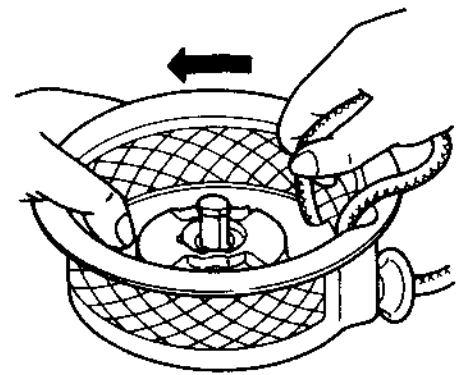

FIG. 84
(3) Before putting the reel in the starter case, wind the starter rope in the arrowhead direction as shown in Fig. 84, and at 2.5 windings take out the rope from the reel notch. Set the reel hook to the inner end of the spring, and put the reel in the starter case. (At this time, confirm that the reel hook is duly set to the spring.) Then, hold the starter rope as shown in Fig.84, and turn the reel 4 times in the arrowhead direction. When wound up, firmly press the reel not to allow reverse turn, and pull the starting knob. Then, pull out from the starter case the starter rope utilized for winding, and slowly return the starting knob.